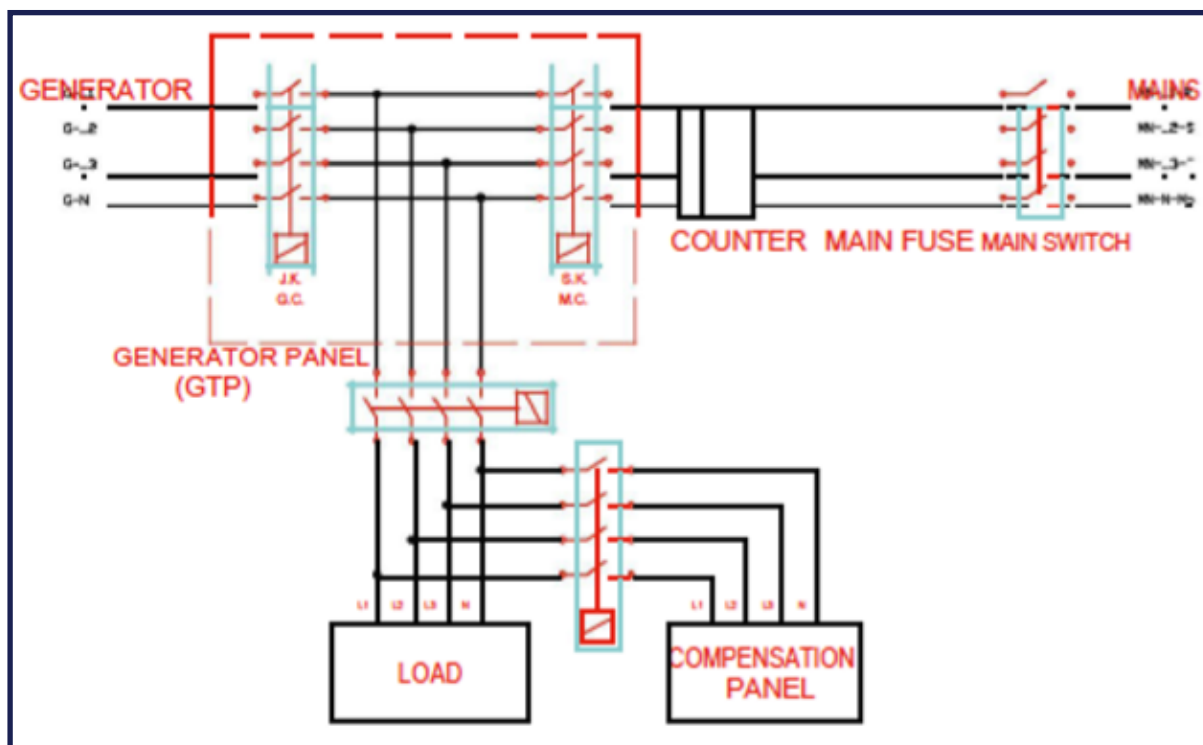

FIGURE-22 CONNECTION METHOD OF THE GENERATOR TO OPERATION
- Operating connection of the generator shall be performed correctly so that it can function properly. This connection type is shown in Figure-22. There are two cable inputs to the panel. One is the mains input for mains control and the other is the generator output. Mains line taken from the electric meter output or from the compensation panel, if applicable, is connected to the consumer via the mains contactor. The point to be considered here is that the generator shall be connected after the meter.